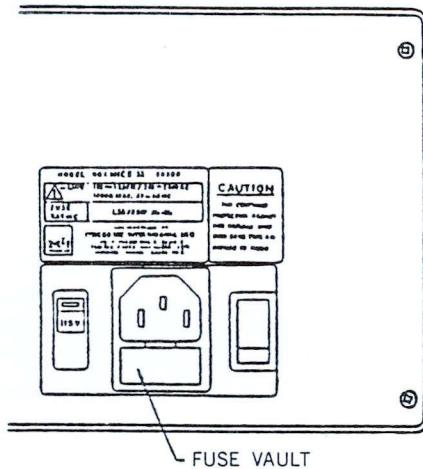

Figure 3-2 Input Power Panel
- 4) Plug the power cord into the D-shell power input connector (Figure 3-2) at the back of the MICE. Check MICE power setting.
The MICE-16 68000 must be set for 115V or 220V AC power. Before applying power, ensure that the power source selector switch at the input power panel (Figure 3-2) is set to match the available current supply.